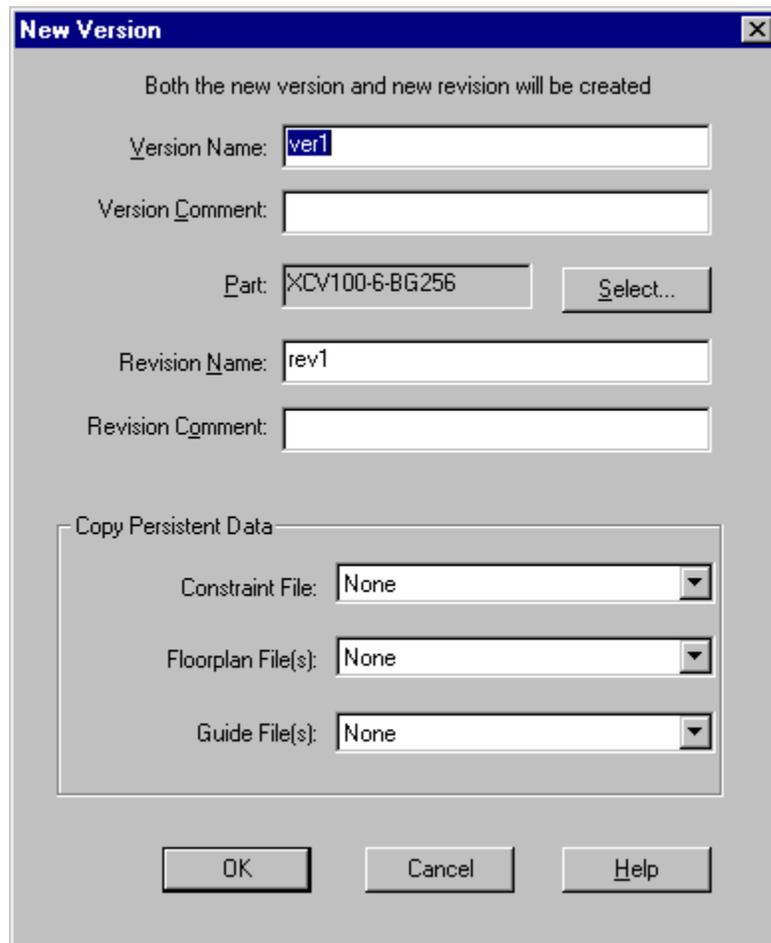

Figure 1: New Version Dialogue Box
At first glance the 2.1i Xilinx Design Manager and Flow Engine appear to be virtually unchanged from the previous software release. A closer look will reveal the improvements. When implementing a new design and creating a new project the Design Manager will prompt the user to create a Version and Revision with the *New Version* dialog box, Table 1 and Figure 1 next page.
**Set Part** tool bar button is pressed, the *Set Part* dialog box appears. The *Set Part* dialog box is very similar to the *New Version* dialog box shown in Figure 1 on page 2 except that the **Version Name** and **Version Comments** fields can not be edited.